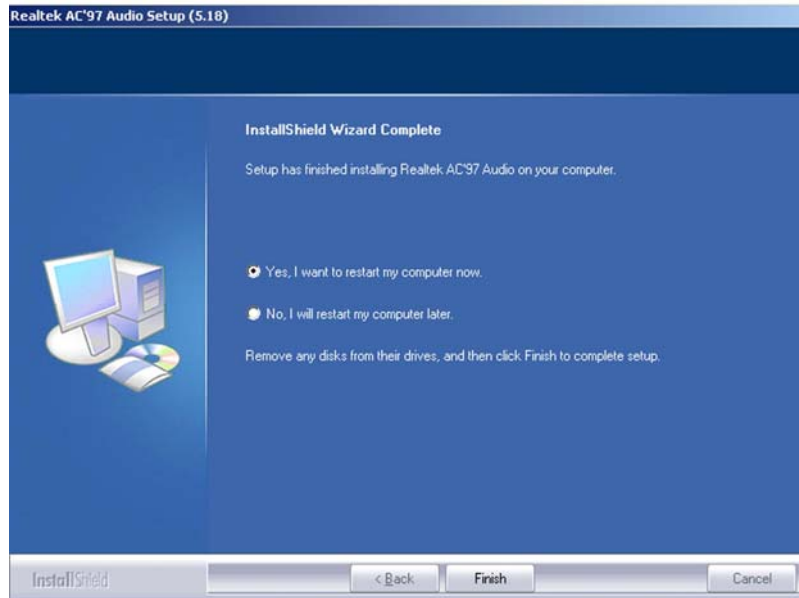

Figure 7-33: AC`97 Audio Driver Installation Complete
Step 9: After the driver installation process is complete, a confirmation screen shown in **Figure 7-33** appears.
Step 10: The confirmation screen shown in **Figure 7-33** allows you to restart the computer immediately after the installation is complete or to restart the computer